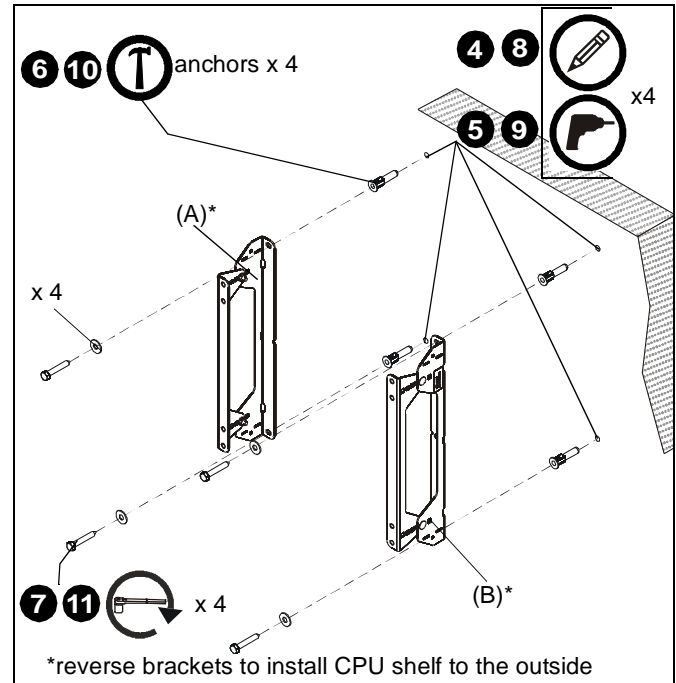

Figure 3
4. Using a level, mark the wall through both upper mounting slots. (See Figure 3)
- NOTE:** If desired CPU location is off to the side of the display, reverse brackets (A and B) from how they are shown in Figure 3.
8. Mark the attachment points for the lower mounting slots. (See Figure 3)
9. Drill one pilot hole at each marking for lower mounting holes. (See Figure 3)
11. Use two 5/16 x 2-1/2" lag bolts and two 5/16" flat washers to attach the brackets to the wall through the lower mounting holes. (See Figure 3)